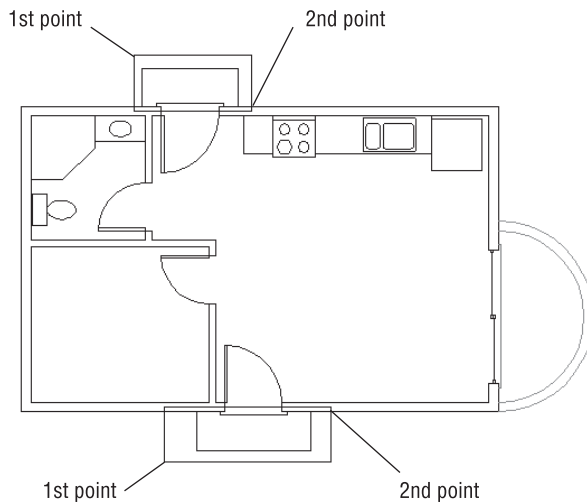

FIGURE 6.16: The two regular selection windows used to select the front and back steps and thresholds
3. Zoom Previous to return to a view of the entire drawing. Make two regular windows to select the front and back steps and their thresholds. Be sure your first pick starts a window at the left and finishes to the right of each step, so the window completely encloses the horizontal and vertical lines that make up each step and threshold. Figure 6.16 illustrates the two regular selection windows and the points to pick to create them. Once selected, the objects display their grips. For lines, grips appear at each endpoint and at the midpoint of each segment. When endpoints of lines coincide or when lines are very short, some of the grips overlap.